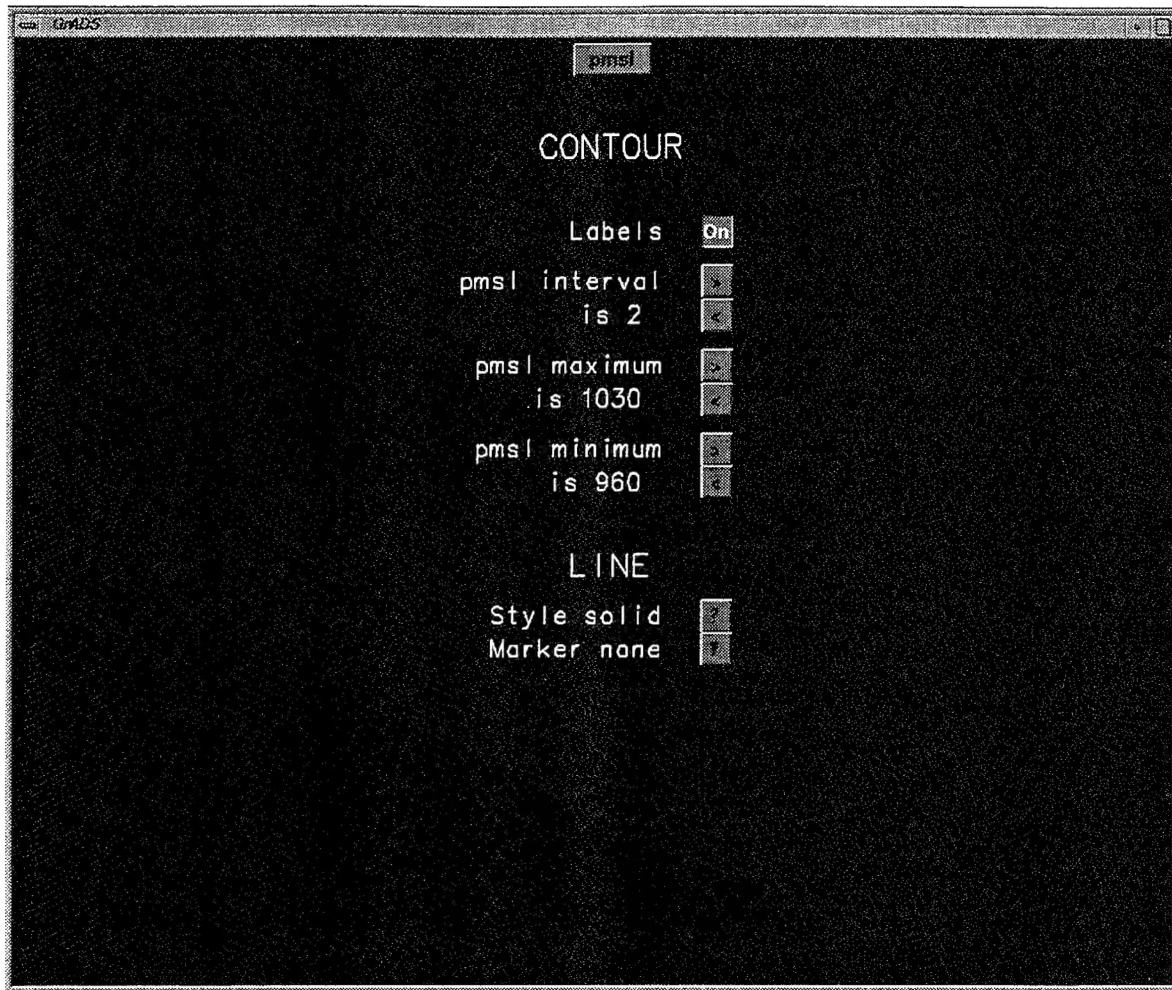

Figure 3. Variable customization menu.
4.3 Variable Customization. A menu of options (Fig. 3) can be obtained by placing the mouse cursor on the desired variable's button and by clicking the right mouse button. All options must be selected using the right mouse button. Clicking the left or middle mouse button accepts the displayed menu values.